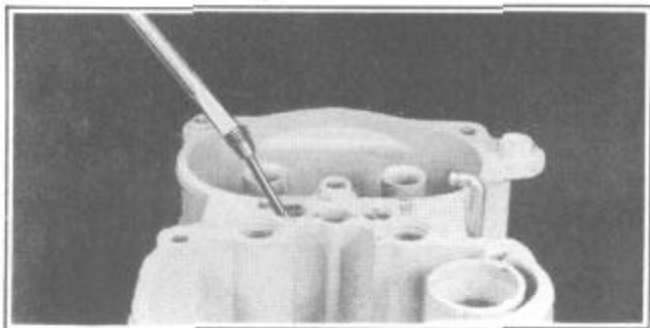

FIGURE 57
6. Remove both by-pass bleeder plugs and low speed jets, Figure 57.